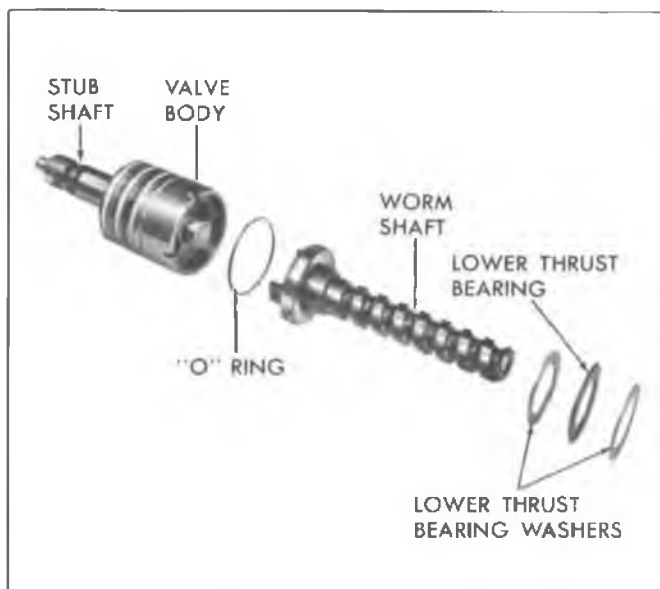

Fig. 52 – Worm and Valve Body – Exploded View
1. Lubricate the worm, lower thrust bearing and the two thrust washers with Type "A" Transmission Fluid, then install one thrust washer, the bearing, and the other thrust washer over the end of the worm (fig. 52).